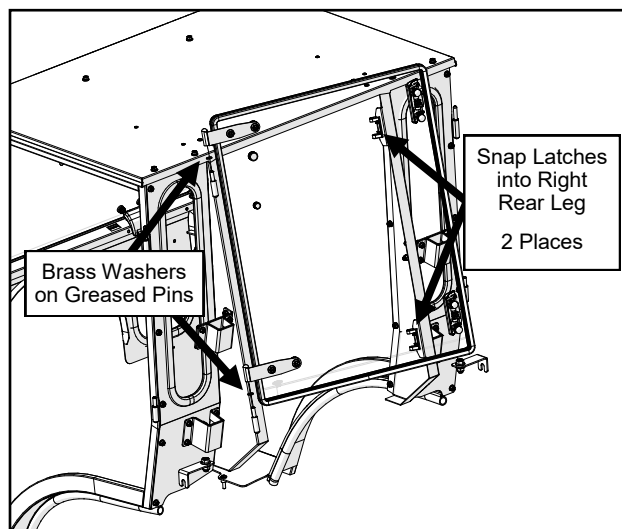

Fig. 11.2 (Hang Rear Window)
- 11.2 Grease the hinge pins for the rear window, and slide on greased brass washers (one washer per pin). See Figure 11.2.